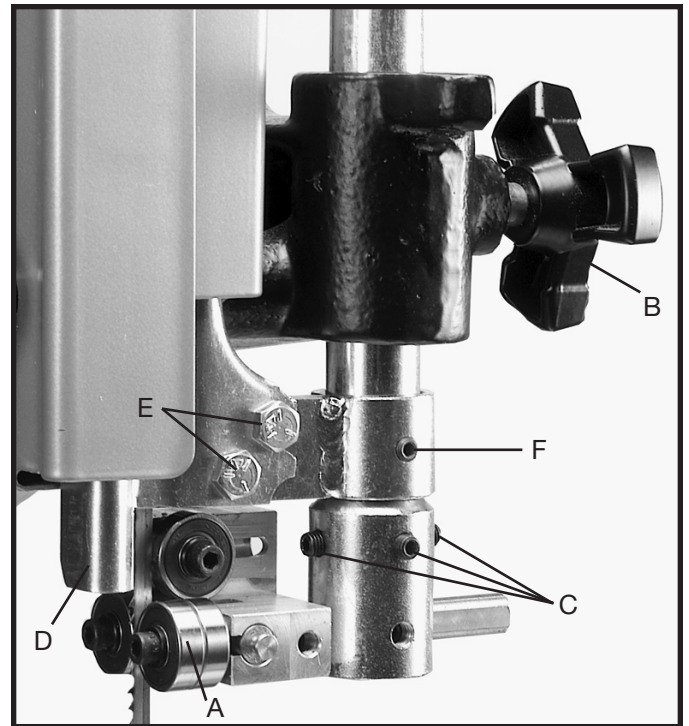

Fig. 24
The upper blade guide assembly (A) Fig. 24, should always be set as close as possible to the top surface of the material being cut by loosening lock knob (B) and moving the guide assembly (A) to the desired position.
1. The upper blade guides (A) Fig. 24, are held in place by means of the set screws (C) Fig. 24. The upper blade guide guard (D) Fig. 24 is held in place by bolts (E) and set screw (F) Fig. 24. Loosen the set screws (C) to remove the guides for maintenance.